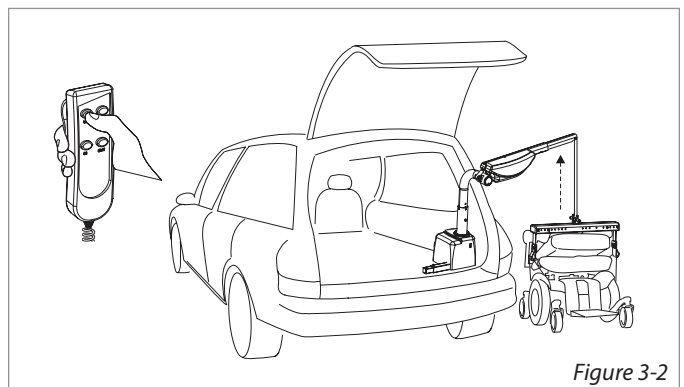

Figure 3-2
5. **Press the "UP" button** to begin raising the power chair or scooter. [Figure 3-2]